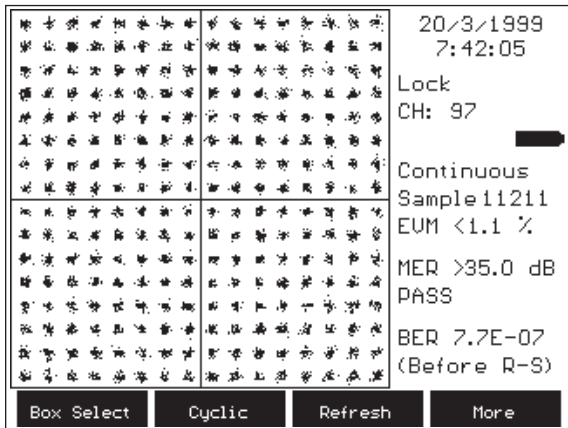
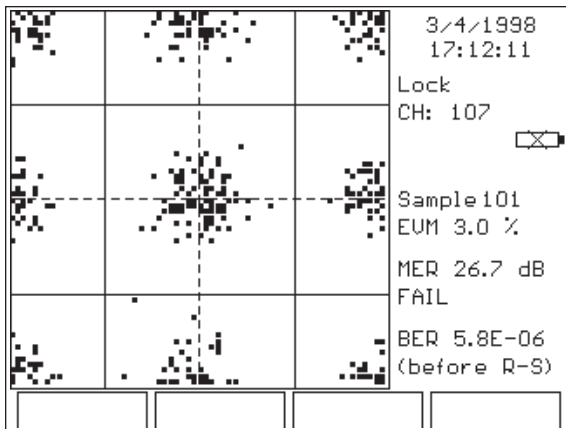

Figure 4. Constellation display mode.
Figure 5. Constellation Box Evaluate mode.
**Mode:** Digital modulation quality can be visually estimated by viewing the constellation of the transmitted signal (see Figure 4). Distribution impairments can be identified including noise and coherent interferers or modulator impairments such as I/Q imbalance or quadrature error. The DMA120 Series also includes two zoom modes – a constellation quadrant view and a single constellation box can be selected to closely examine the distribution of symbol landings. Decision boundaries are displayed along with adjacent boxes to make it easy to see the symbol landing patterns (see Figure 5).